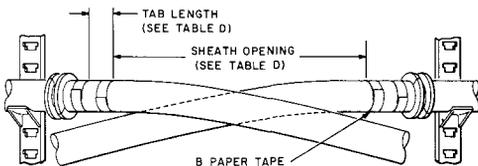

Fig. 11—Paper Tape Markers Placed
3.06 Mark the center of the splice; then place B paper tape markers on the jacket as illustrated in Fig. 11. In aerial installations where the slack puller is used, follow instructions in the 632 Division of the Bell System Practices. Pull the slack before marking the sheath opening. Complete the splice case installation before removing the slack puller.